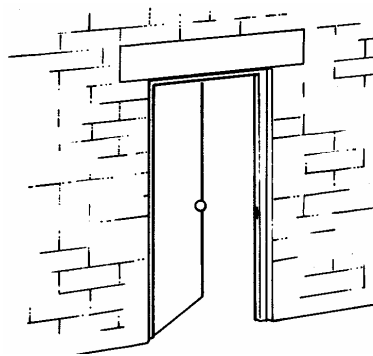

Fig. 10
- (e) Fig. 10 shows a doorway and lintel.